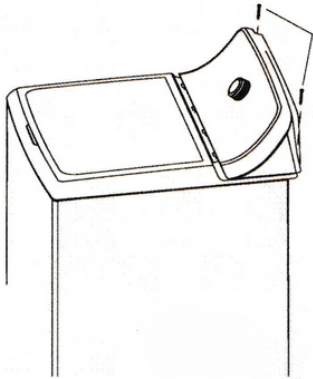

FIGURE 4
7. Remove (2) 1/4 inch hex head screws securing the backsplash to the top cover. *See Figure 4.*